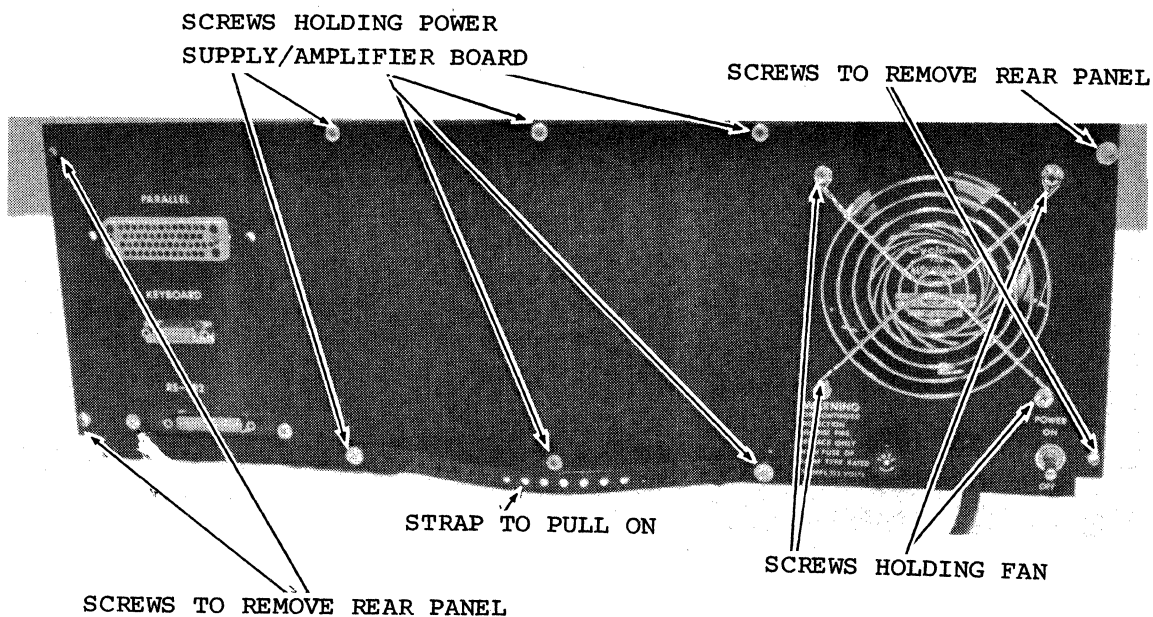

Figure 6-3. Rear Panel
- (b) Unscrew the four screws that fasten the rear panel (electronic module) to the chassis. Remove the electronics module by pulling the strap on the rear panel (see Figure 6-3 and 6-4).
- (b) Unscrew the four screws that fasten the rear panel (electronic module) to the chassis. Remove the electronics module by pulling the strap on the rear panel (see Figures 6-3 and 6-4).
- (b) Unscrew the four screws that fasten the rear panel (electronic module) to the chassis and remove the electronics module, by pulling the strap on the rear panel (see Figures 6-3 and 6-4).
- (b) Unscrew the four screws that fasten the rear panel to the chassis and remove the rear panel (see Figures 6-3 and 6-4).